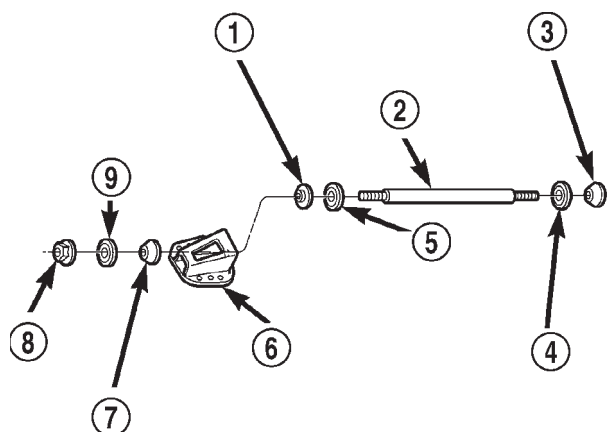

Fig. 38 Trailing Link Bushing Installation
(1) Install the (black) inner bushing retainer, and inner bushing (Fig. 38) on the trailing link. Install the trailing link, retainer and bushing on the hanger bracket (Fig. 38). Then install the outer bushing, (gold) outer bushing retainer and nut (Fig. 38) on the trailing link. Using a large adjustable wrench on flat of trailing link to keep it from rotating, tighten the trailing link retaining nut to a torque of 99 N·m (73 ft. lbs.).
(2) Install the (black) inner bushing retainer, and inner bushing (Fig. 38) on the trailing link.
(3) Install knuckle end of trailing link in rear knuckle.